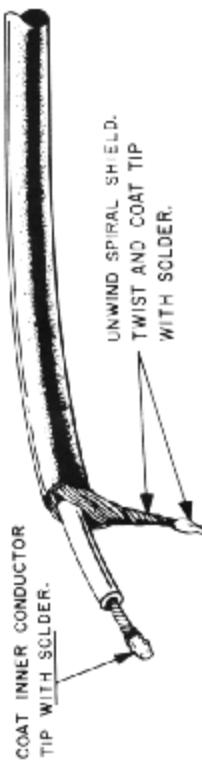

FIGURE 7
- ☒ Single conductor shielded cable. Prepare the ends as shown in Figure 7. Pass one end of the cable through the small grommet in the rear of the chassis and connect the inner conductor to terminal 2 of L-2. Slip ¾" of tubing over the shield and solder it to ground lug C on V-1.